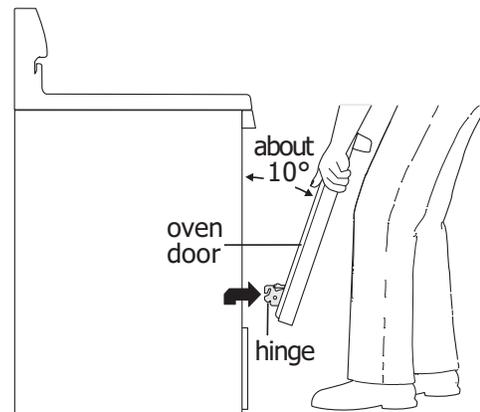

Figure 19: Holding door for removal
3. Firmly grasp both sides of oven door along the door sides. Do not use the oven door handle (Figure 19)
4. Close the door to approximately 10 degrees from the door frame (Figure 19).
1. Firmly grasp both sides of oven door along the door sides. Do not use the oven door handle (Figure 19).